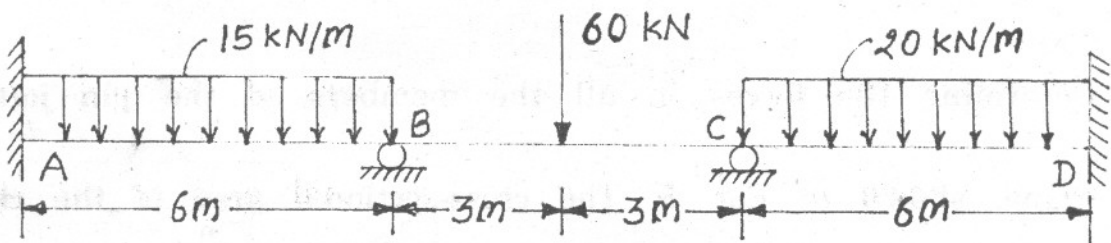

Fig. 9
7. Analyze the continuous beam loaded and supported as shown in Fig. 9 by slope deflection method. Draw S.F. and B.M. diagram.